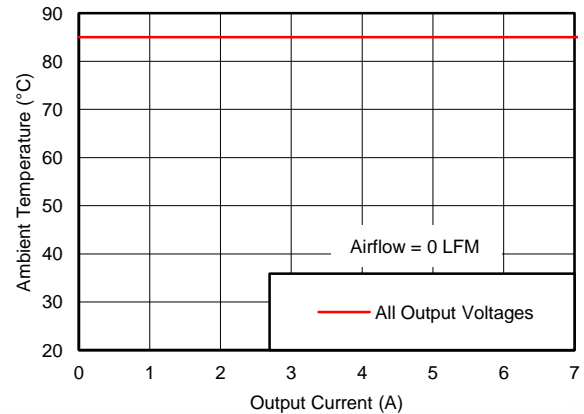

Figure 15. Safe Operating Area
- (2) The temperature derating curves represent the conditions at which internal components are at or below the manufacturer's maximum operating temperatures. Derating limits apply to devices soldered directly to a 100 mm × 100 mm, 4-layer PCB with 2 oz. copper. Applies to Figure 15.